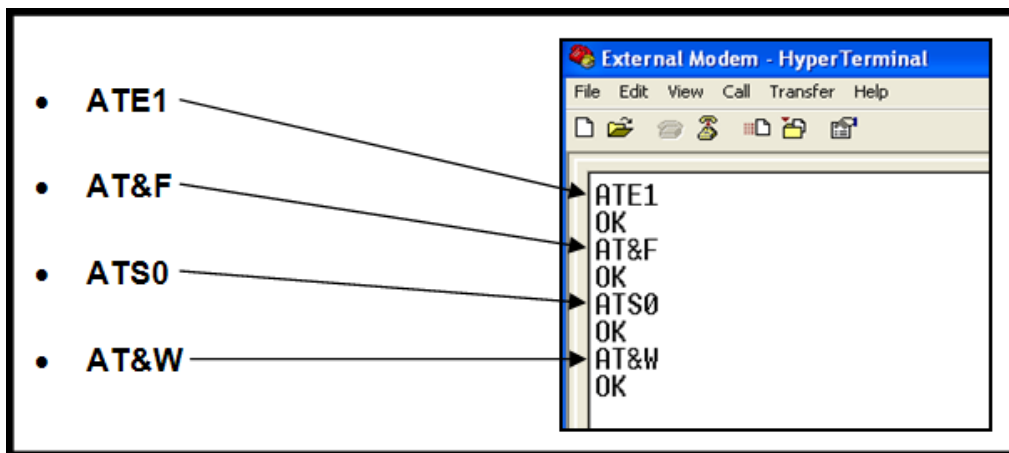

Fig. 5.6
- 7) You will now type in a series of commands (one at a time) into HyperTerminal. Once each command is entered, you should get a response of **OK** (Fig. 5.6). The following is a list of the commands that should be entered: